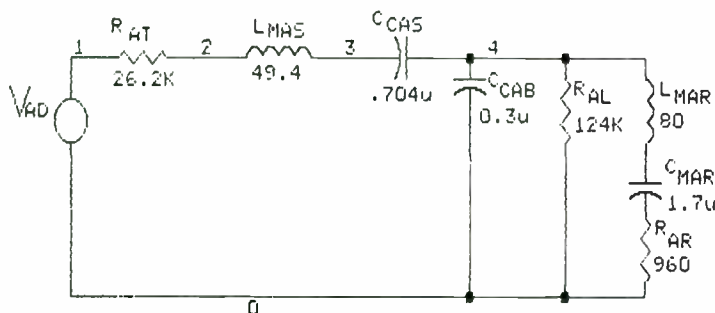

FIGURE 9: Passive-radiator enclosure design data.
**Passive Radiator.** As Fig. 9 shows, the